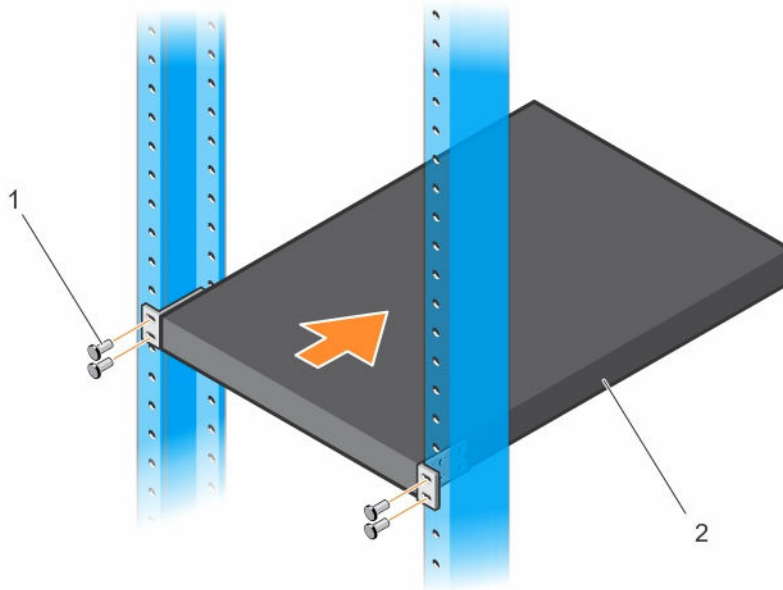

Figure 7. Mounting the C1048P in a 2-Post Rack
5. Secure the C1048P to the rack using the rack bolts (provided with the mount brackets) or cage nuts and cage-nut bolts with washers (provided with the rack). Tighten the bolts on the bottom of each bracket flange first; then tighten the bolts on top (item 1 in Figure 7).